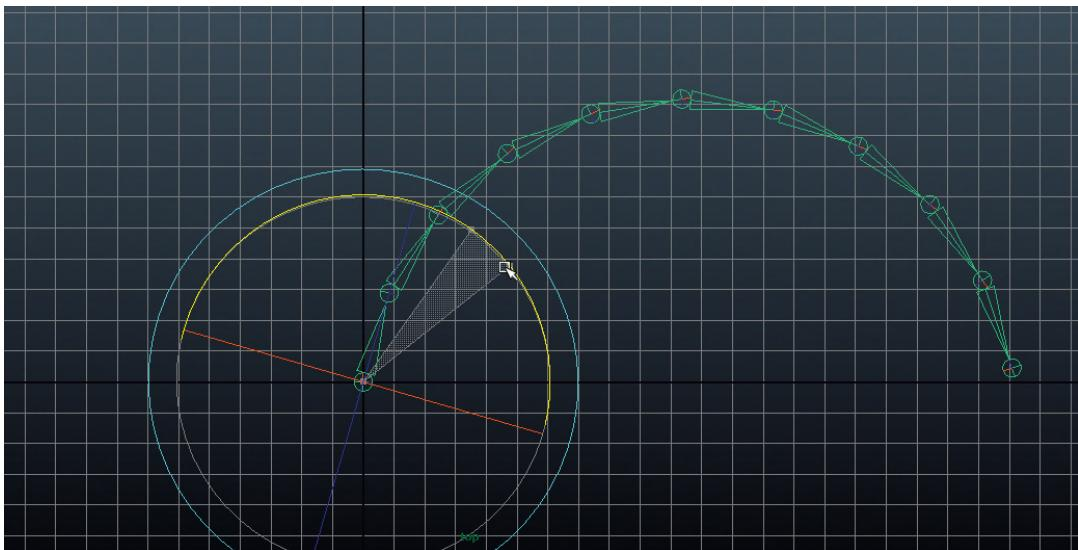

FIG 9.18 Rotating all the joints 15 degrees to one side.
Step 3: Pose all the joints rotated to one side and set a keyframe for all. Do this by shift selecting each of the joints individually, starting from the tip and moving up to the base. Then, using the Rotate Tool, rotate all of the joints at once (Fig. 9.18). Hit s to set a keyframe for all these selected joints.